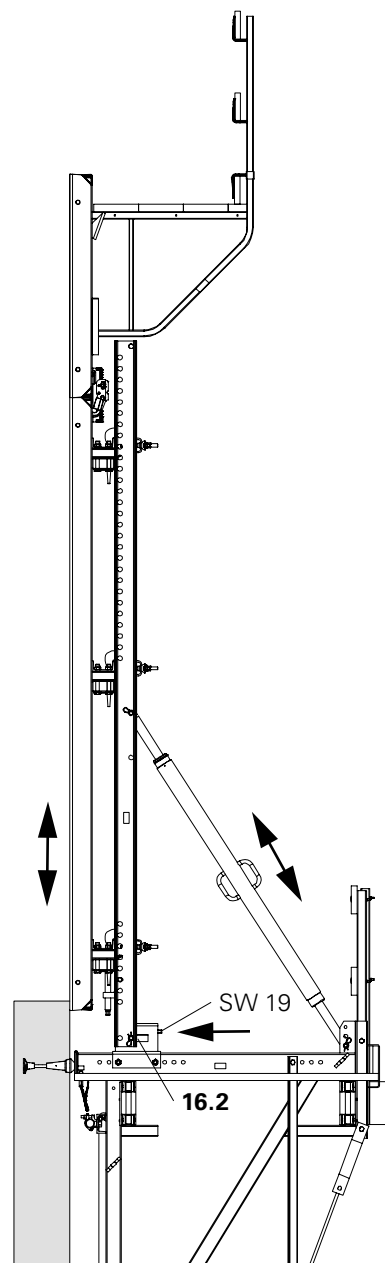

Fig. B2.31
10. Align formwork, see B3. (Fig. B2.31)